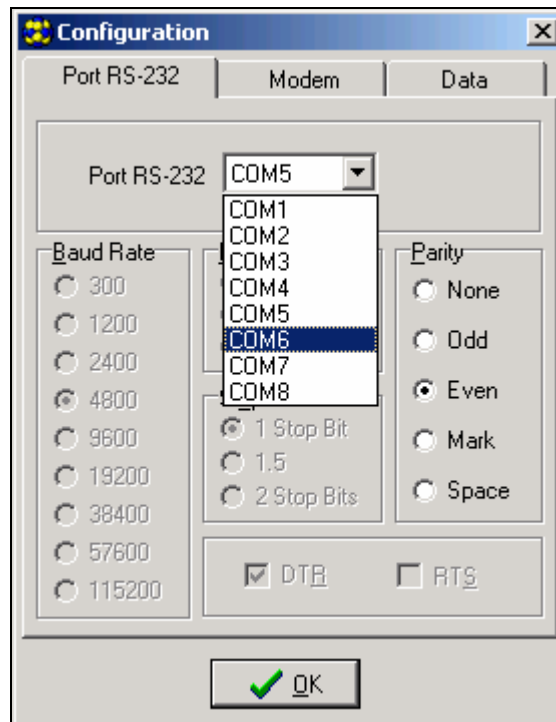

Fig. 7. "Configuration" window.
4. Indicate the computer port to which the module is connected (see: Fig. 7).